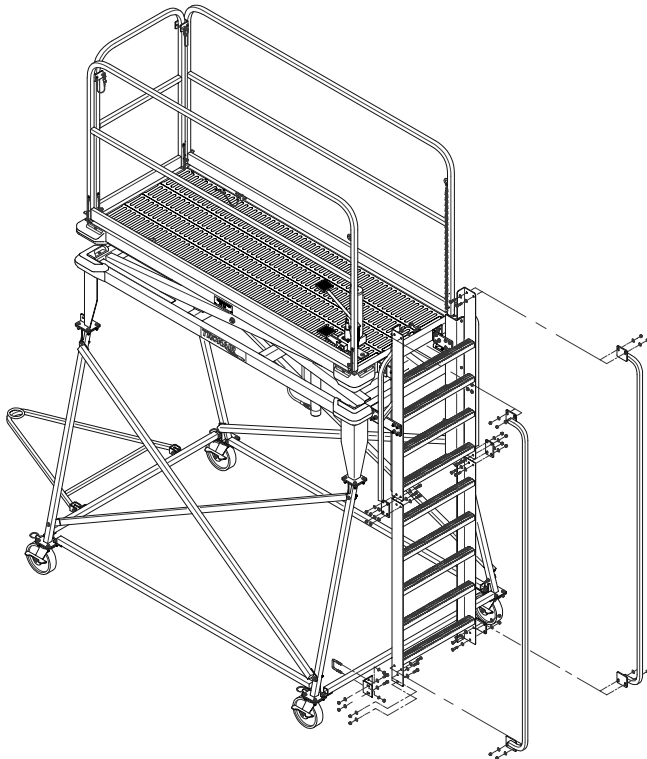

FIGURE 4
6. Install the ladder extension using the splice plates and $\frac{3}{8}$ -16 x 1½ inch long bolts. Assemble the extension handle using $\frac{3}{8}$ -16 x 1½ inch long bolts and secure the ladder to the extension brace using the U-bolt, angle and $\frac{3}{8}$ -16 x 1½-inch long bolts. (See *Figure 4* – Page 2).